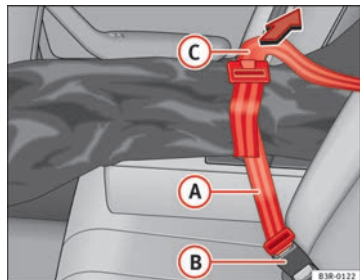

Fig. 118 Securing the ski bag on the centre seat belt buckle on the rear seat bench
- Insert the fastening belt **A** ⇒ fig. 118 of the ski bag into the centre seat belt buckle **B**.